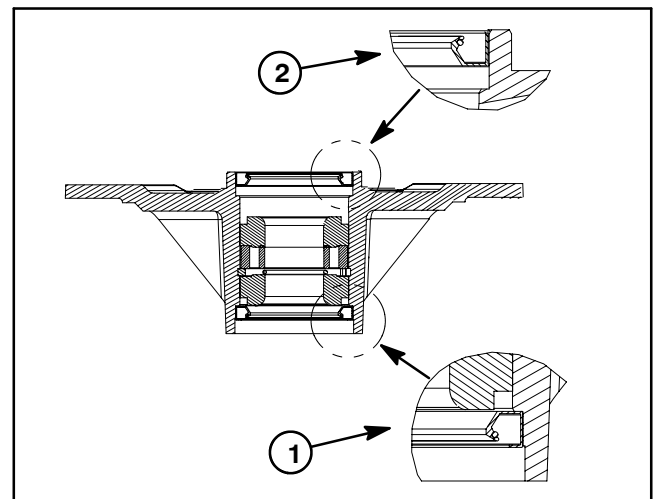

Figure 18
5. Install lower bearing and seal into bottom of spindle housing. **Note:** The bottom seal must have the lip facing out (down) (Fig. 18).
6. Slide spacer ring and inside spacer into spindle housing, then install upper bearing and seal into top of housing. **Note:** The upper seal must have the lip facing out (up) (Fig. 18).